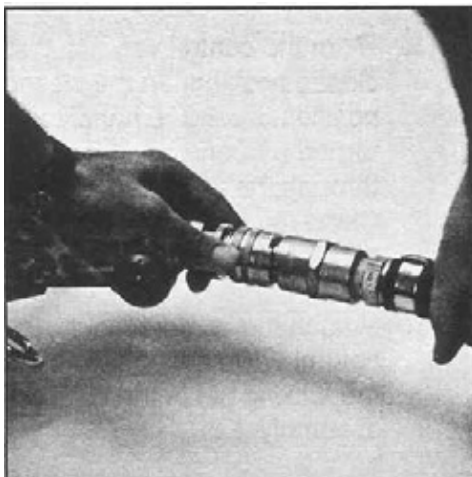

Figure 9: Attach Air Hose
9. Attach the air hose to the seal-off body assembly and tighten the locking ring on the air connector. Rotate the 45° angle fitting away from the winch line channel and the winch line to prevent tangling and wear of the air hose or connectors. See Figure 9